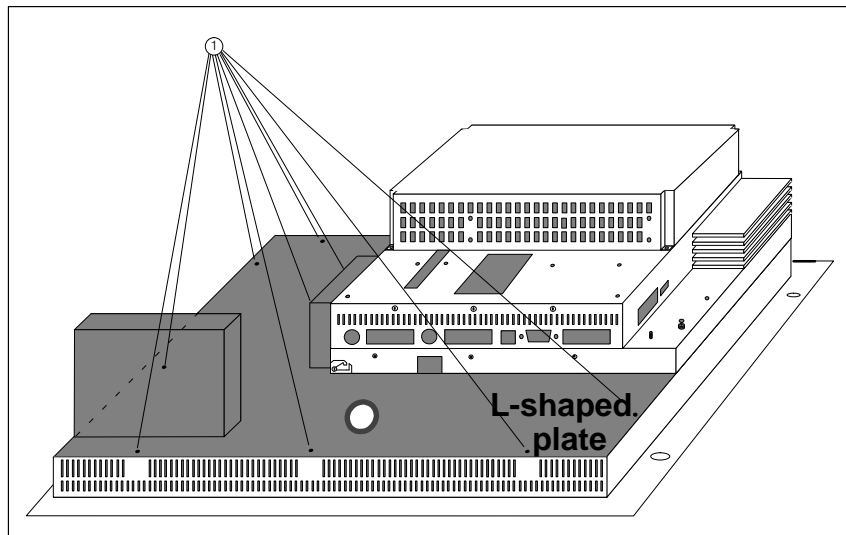

Figure 6-10 Removing the L-shaped plate.
2. Release the nine screws marked in Figure 6-10 with the number ① from the L-shaped plate; two of them are on the cover plate next to the PCMCIA slot.
3. Remove the L-shaped plate shaded grey in Figure 6-10.